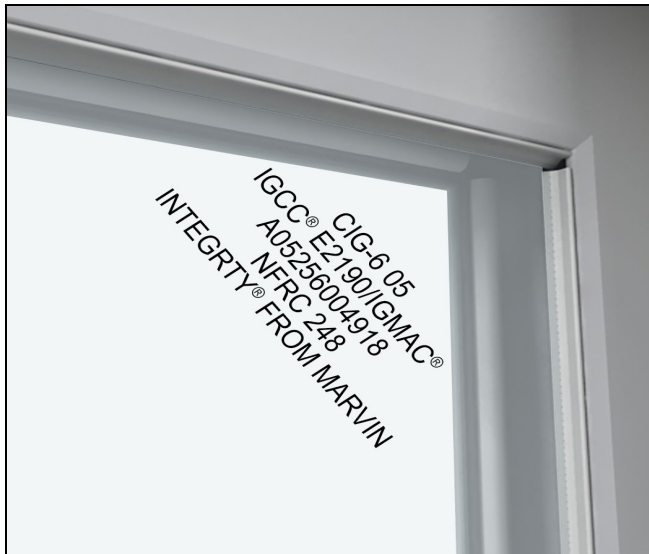

Figure 5
1. Remove the protective packaging from the unit and dispose/recycle properly. Inspect unit for any hidden damage and report immediately to your Marvin representative. Provide the customer service number etched on one of the top corners of the glass. See Figure 5.